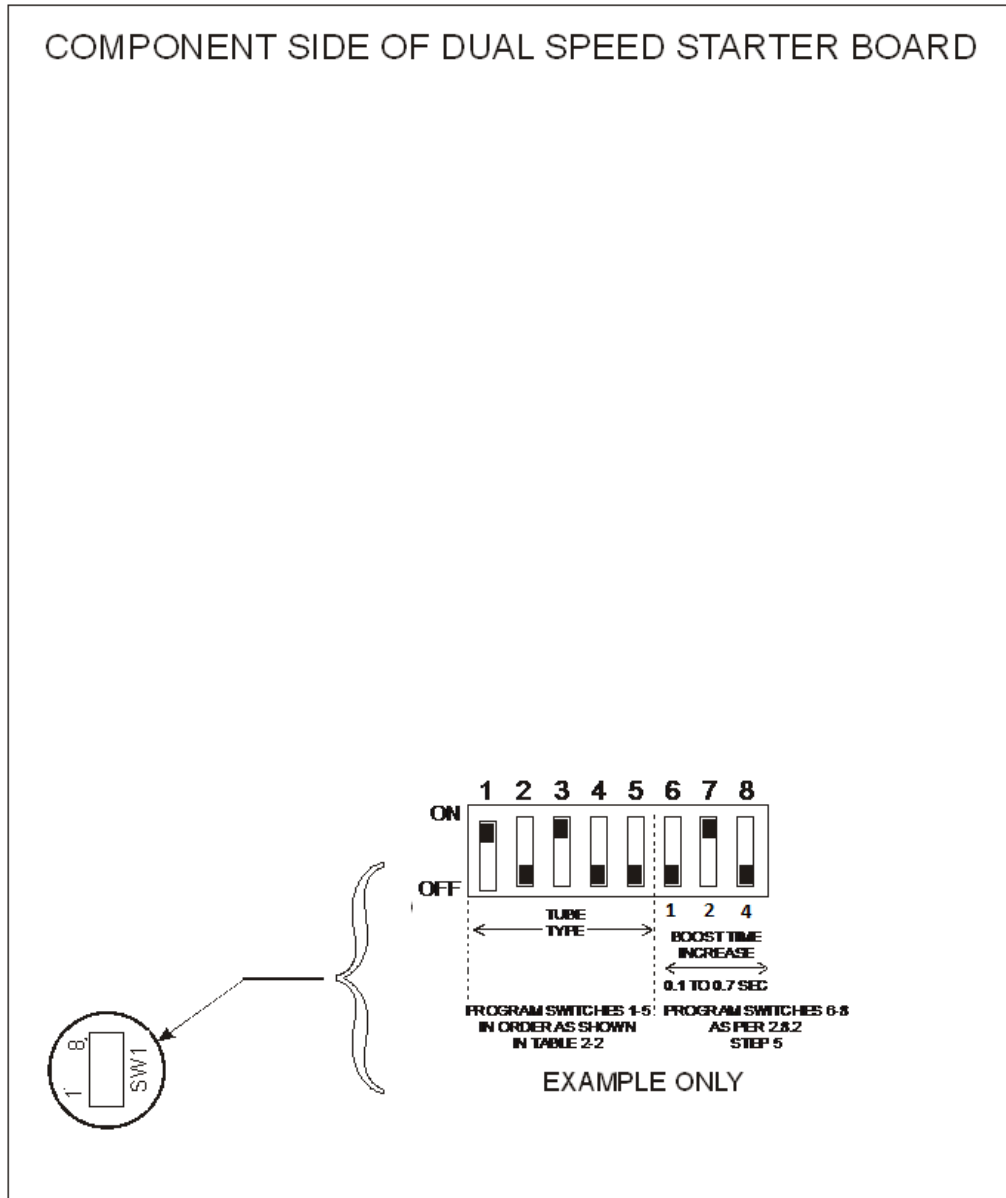

Figure 2-10: Dual-Speed Starter DIP switch SW1
5. Refer to figure 2-10. Set DIP switch SW1 with the binary code for the selected tube. The binary code shown in the referenced Table 2 programs the tube type (housing and insert), for example housing type Varian Sapphire with standard "R" stator and inserts per Table 2 requires SW1-1 to be set ON, SW1-2 OFF, SW1-3 ON, SW1-4 OFF and SW1-5 OFF. This programs the voltages, brake times, and boost times required.
6. The DIP switch setting shown in figure 2-10 is for the example in step 5 with an incremental increase in boost time of 200 ms.
THE DIP SWITCH SHOWN IN FIGURE 2-10 IS REPRESENTATIVE OF ONE STYLE OF SWITCH ONLY. DEPENDING ON MANUFACTURER, YOUR DIP SWITCH STYLE MAY VARY. PLEASE NOTE THE ON / OFF POSITIONS CAREFULLY FOR YOUR UNIT.